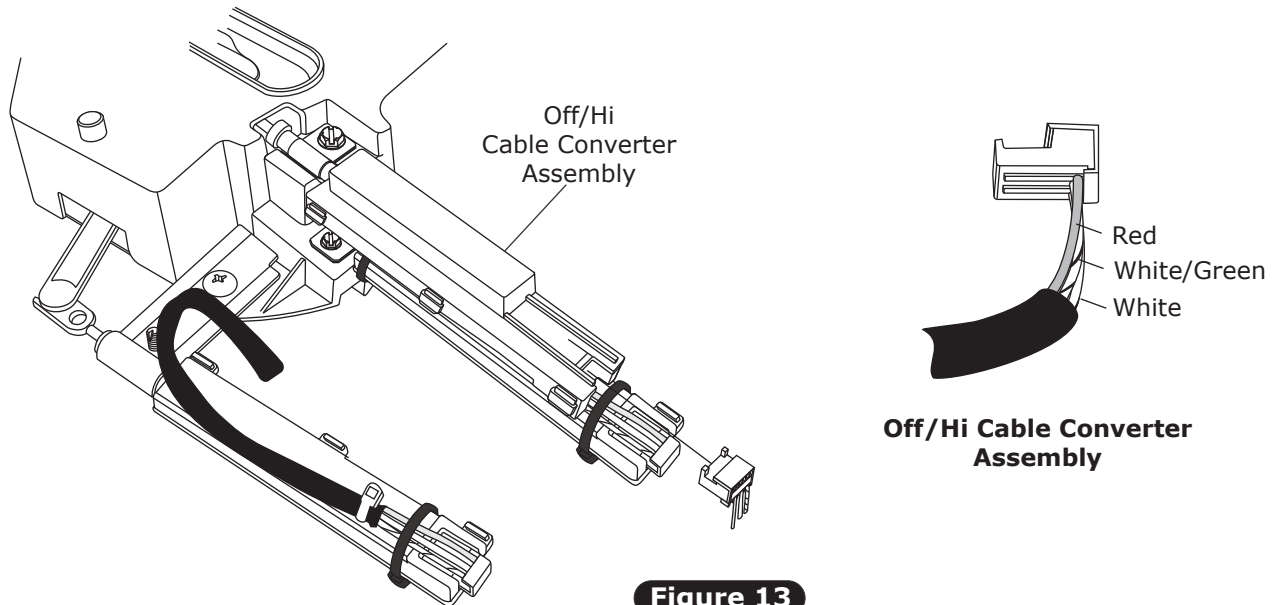

Figure 13
1. Locate the control panel wiring harness, and plug the corresponding wire into the correct cable converter assembly (See Figure 13, below).